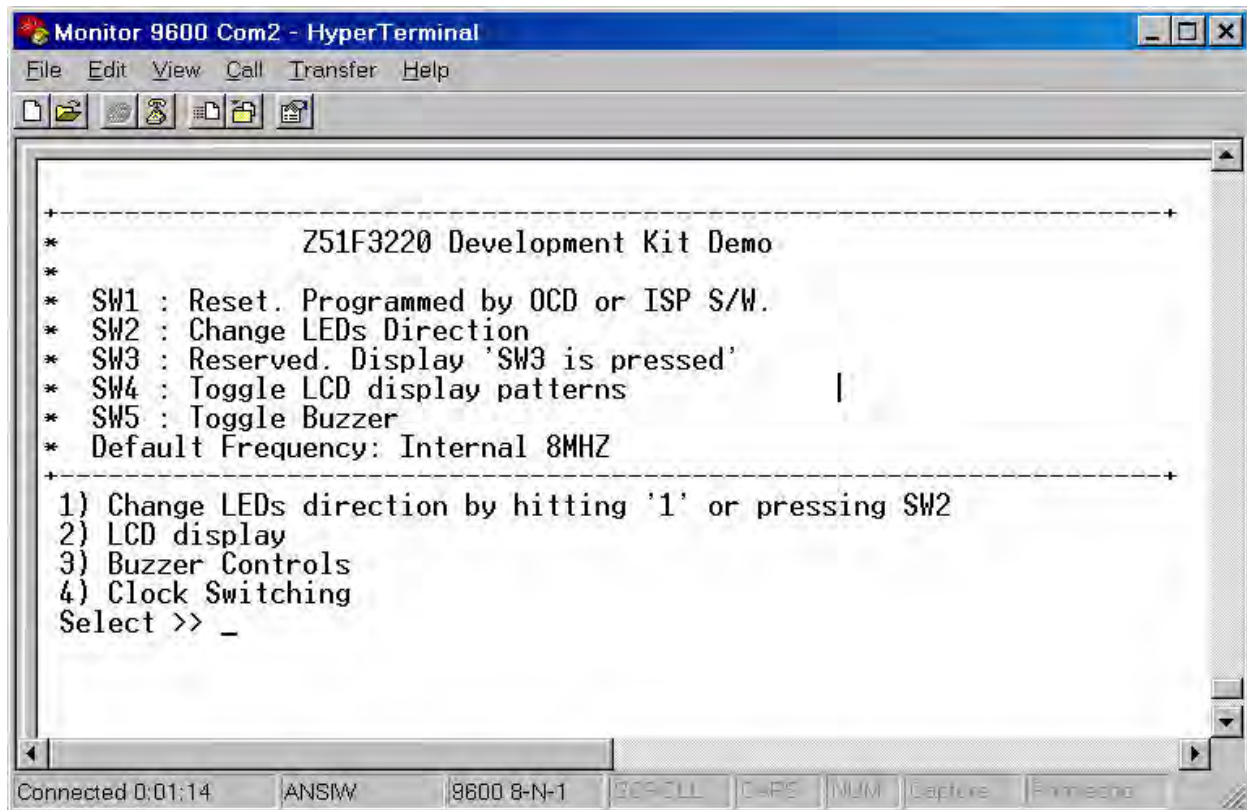

Figure 17. Demo Program Menu in HyperTerminal
3. Click the **Call** button to connect to the Z51F3220 Board. Upon connection, you should be able to see the Demo program menu shown in Figure 17.